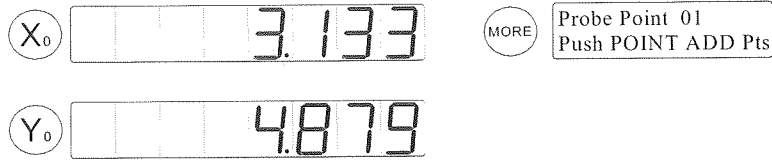

Figure 2-10 Probe Point
- d. Press the  key. The Probe Point screen is displayed. (Figure 2-10).